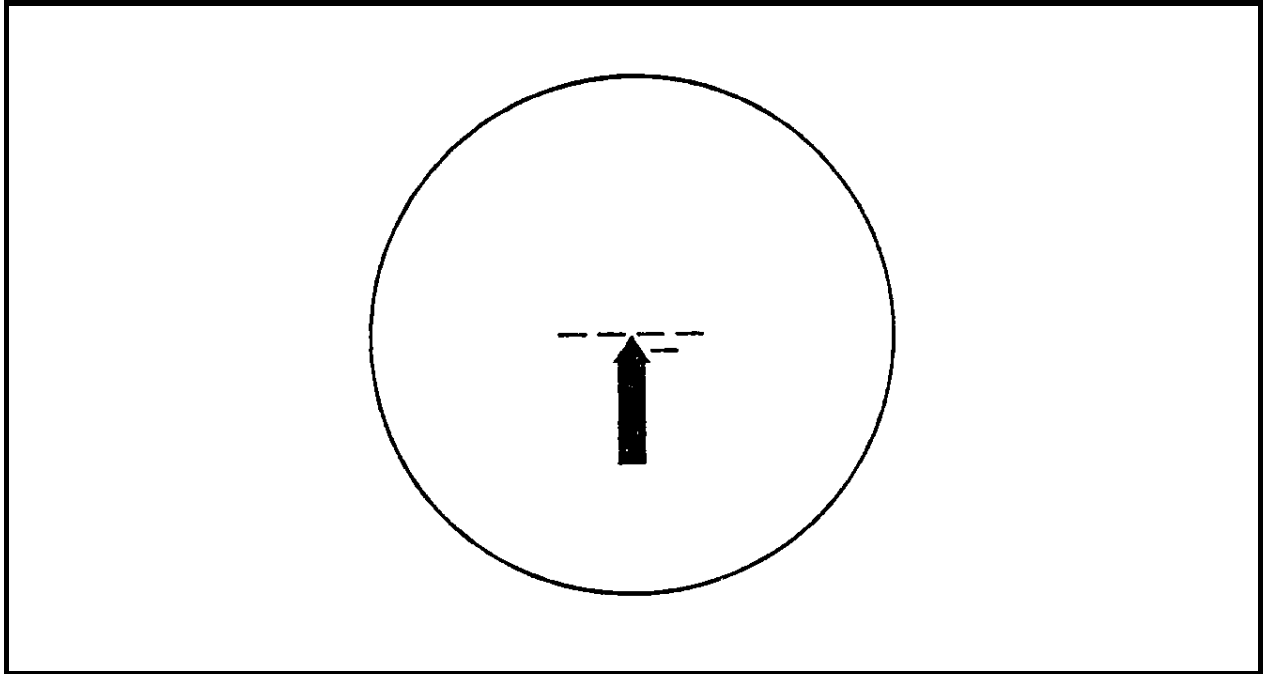

Figure 4-3 Full Field of View - Correct Eye Relief
- (1) **Step One.** The gunner adopts the prone position, ensures a proper hold and aim, and then closes both eyes.
- (2) **Step Two.** The team member then positions the sight on the weapon and moves it in the appropriate direction (forward or back) to obtain the proper 3-inch eye relief.
- (3) **Step Three.** The gunner opens the sight eye. If the target scene fills the scope to provide the maximum field of view, the correct 3-inch eye relief has been attained and no further adjustments are required. The team member then tightens the wing nuts (see Figure 4-3).